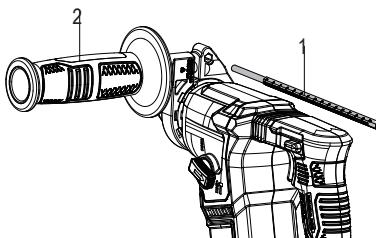

Fig.3
A depth gauge (1) helps to ensure that holes are drilled to a uniform depth. To install, loosen auxiliary handle (2) and insert the depth gauge (1) into the hole in the handle. Adjust to the desired depth and tighten the auxiliary handle (2). Make sure the depth gauge (1) does not come in contact with the main body of the tool to ensure accuracy (Fig.3).